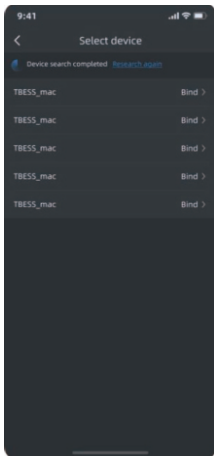

Figure 2
2)Figure 2: Display the list of searched devices, select the device to be added, click "**Bind**" to start adding;If no device is found, you can click "**Research again**" or switch the addition method.